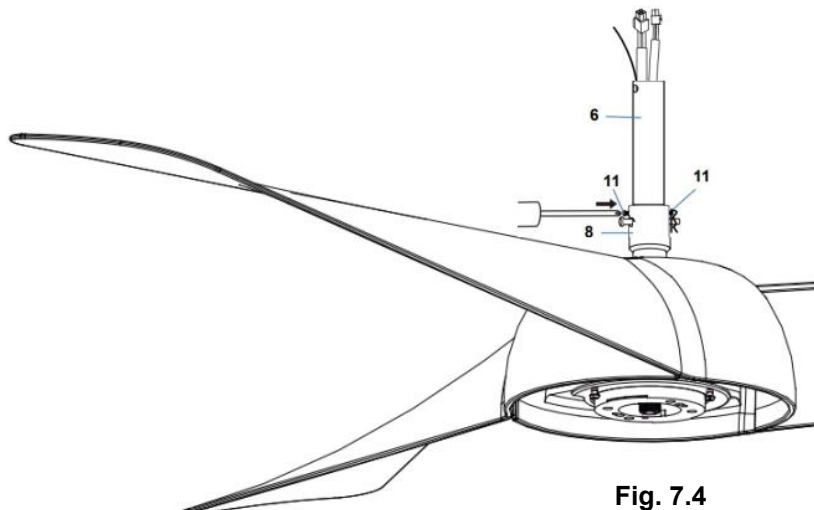

Fig. 7.4
5. Secure the down rod (6) by tightening the set screws (11). (Fig. 7.4)